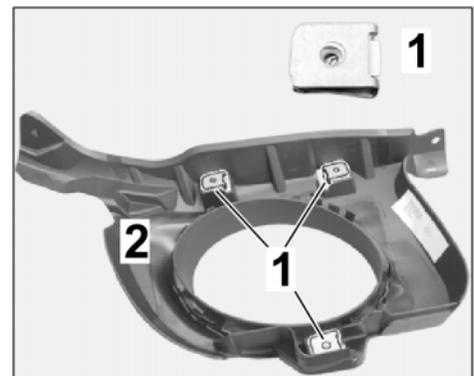

Figure 11
3.3.1 Install new speed nut, St 4.8 x 22 x 18 (3 pc(s)) on exhaust pipe cover (left ⇒ *Figure 11/* right).